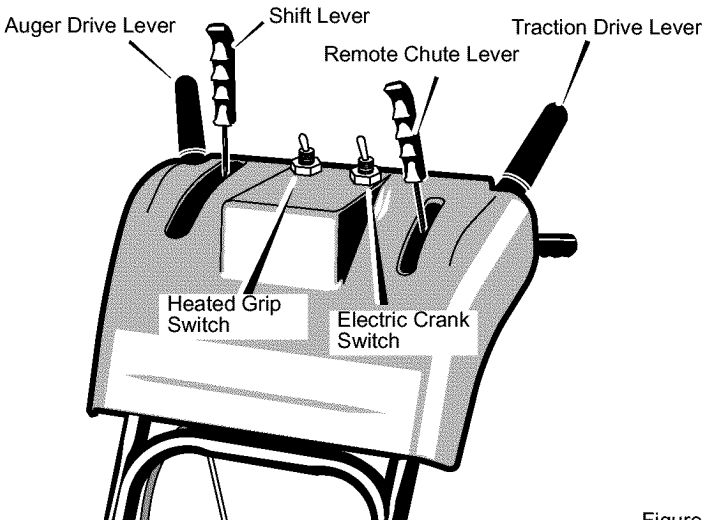

Figure 14
1. To stop throwing snow, release the **auger drive lever**. See Figure 14.
1. Push down the **auger driver lever (right hand)**. See Figure 14.
When the temperature falls below 32 degrees, use the heated grips to keep your hands warm. Move the **heated grip switch** to the ON position (see Figure 14). It will take a couple of minutes for the grips to become warm. Because heated grips can become very warm, we recommend that you wear gloves. If you notice that the grips are too warm, turn off heated grips.